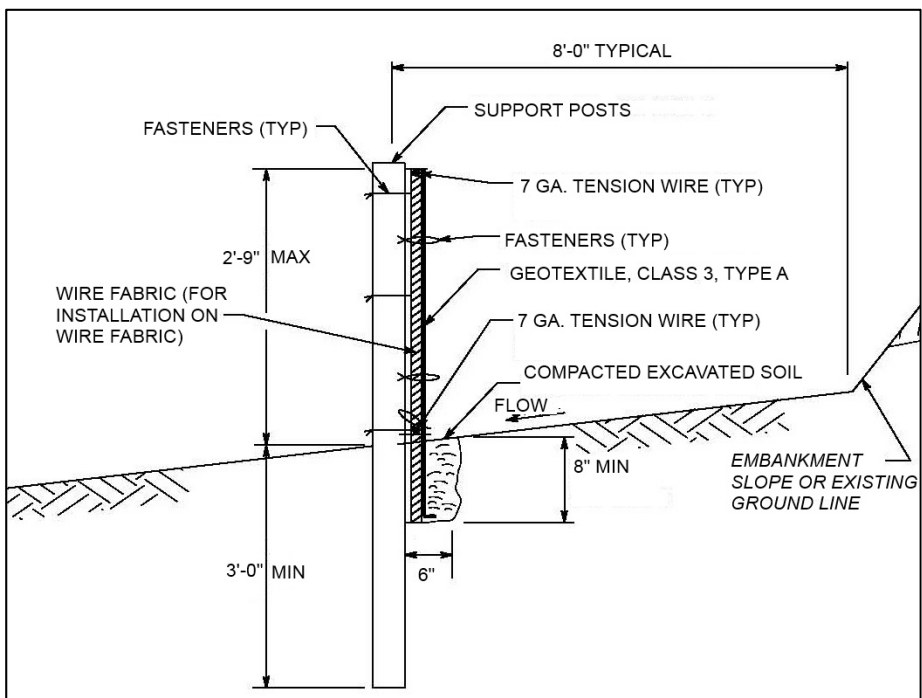

Figure 20: Super Silt Fence
- Install downslope of all disturbance, in existing ground, and parallel to existing contours. See **Figure 20**.